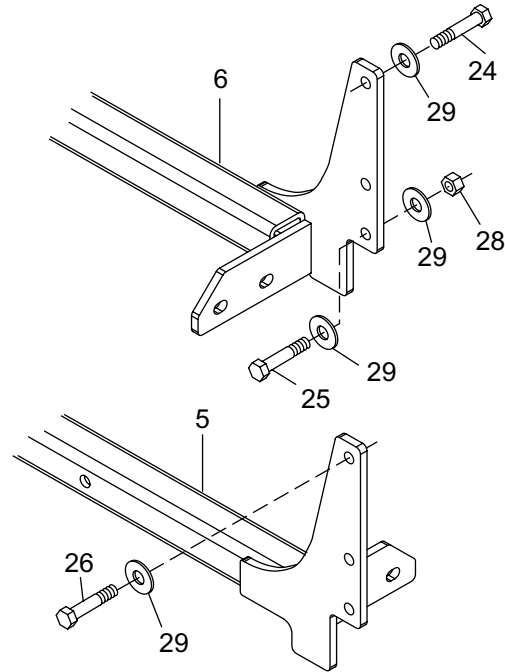

Figure 6 Reinforcement bracket assembly
2. Hand tighten appropriate hardware (refer to Figure 6) to hold brackets in place.
NOTE: Cap screws that attach the reinforcement to the tractor clutch housing are different lengths on right and left side of tractor. Refer to Figure 6 for correct hardware.